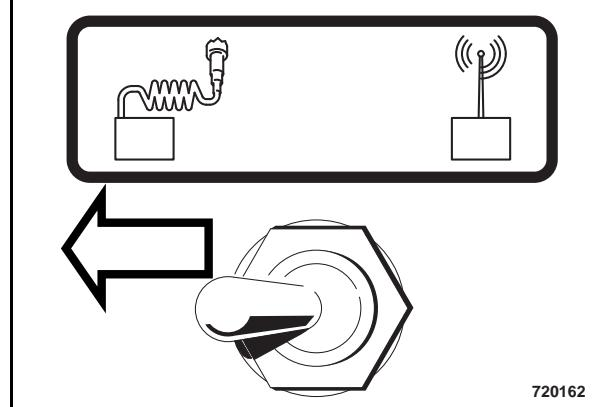

Fig. 29
- For cable operation of the machine switch the toggle switch (Fig. 29) to the left.